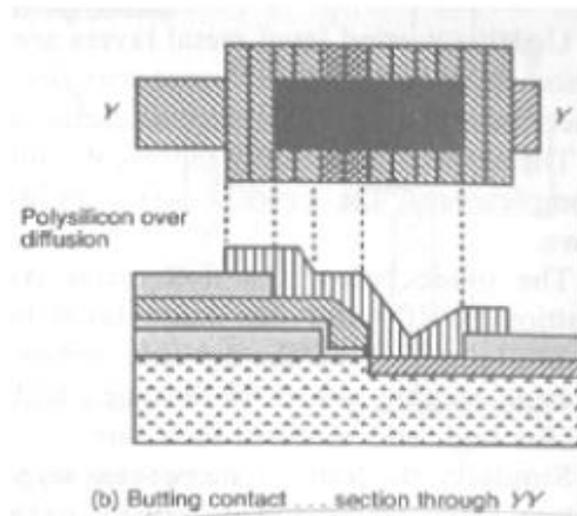

Figure 15: Butting contact.
**Butting contact:** The layers are butted together in such a way the two contact cuts become contiguous. We can better understand the butting contact from figure 15.